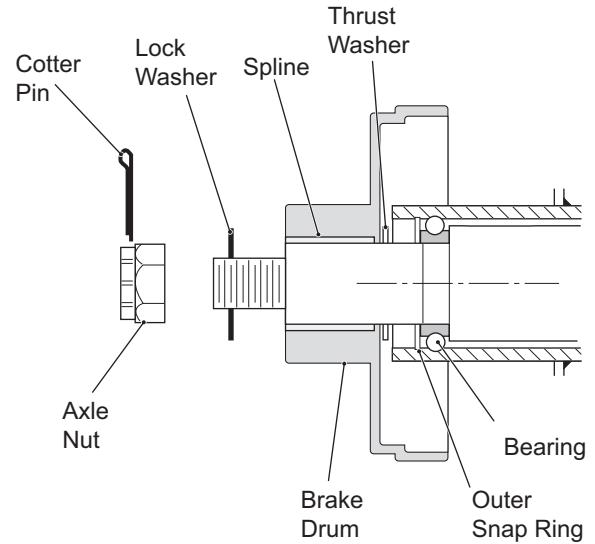

Fig. 7 Cut Away of Outer Bearing and Brake Drum
- Coat the outboard spline of the axle with an anti-seize compound. Install the brake hub and drum, thrust washer, nut and new cotter pin (Ref. Fig. 7).